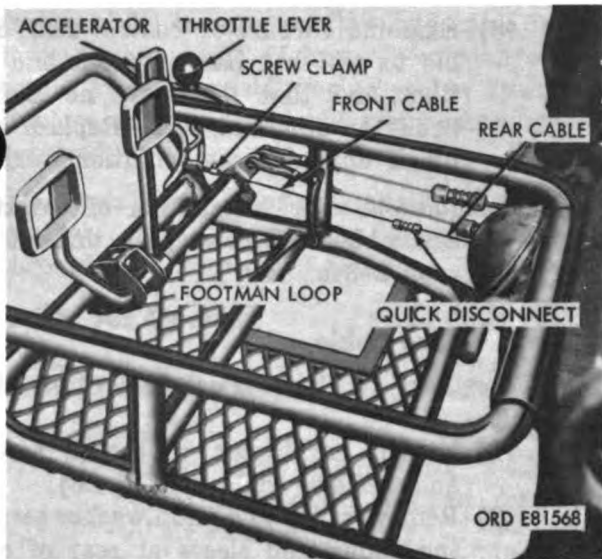
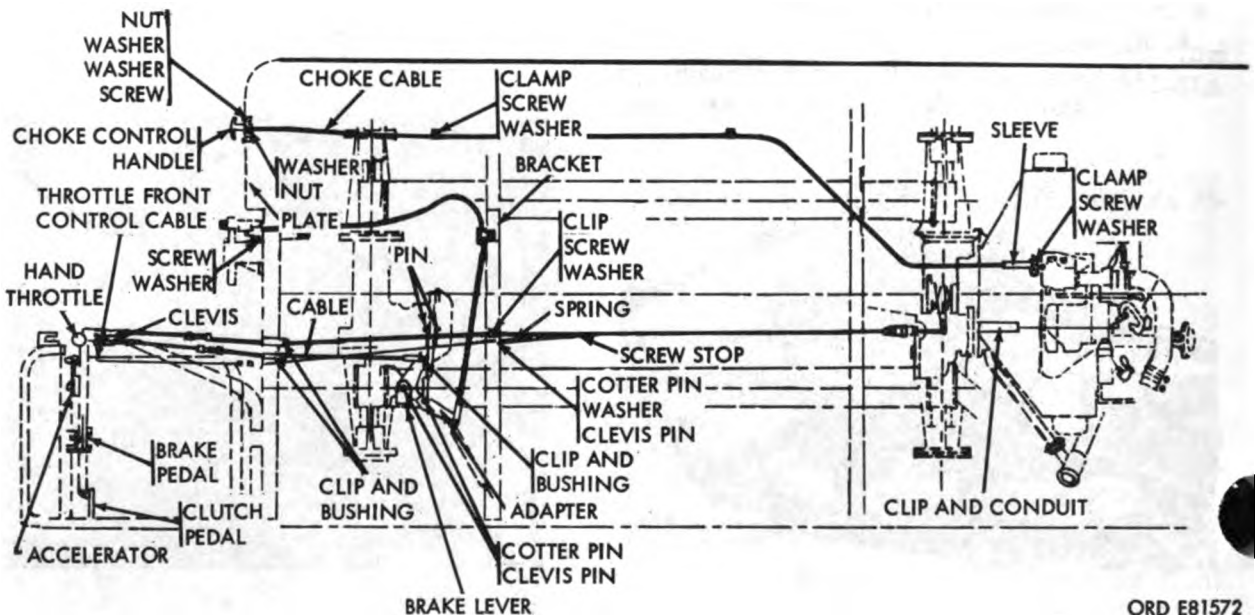

Figure 2-24. Location of front and rear throttle control cables.
Figure 2-28. Control cable routings.
- (1) Disconnect quick-disconnect coupling between front and rear throttle control cables at forward end of coupling (fig. 2-24).
- (2) Loosen screw clamp securing front end of throttle control wire to accelerator pedal and remove front control cable (fig. 2-24).
- (3) Loosen screw in stop under platform just rearward of second crossmember support (fig. 2-28). Disconnect quick-disconnect at front of vehicle between front and rear throttle control cables at rear of quick-disconnect (fig. 2-24).
- (4) Pull rear throttle cable from rear of vehicle through front crossmember bushing and clip, second crossmember bushing and clip, spring, stop, third crossmember bushing and clip, and conduits and clip on shroud. Refer to figure 2-28.
- (2) Remove screw and plain washer securing clamp and sleeve at rear of engine (fig. 2-28).
- (3) Remove two clamps, screws, and plain washers securing cable to underside of platform (fig. 2-28).
- (4) Remove with suitable tools two machine screws, flat washers, lockwashers, and nuts from front platform (figs. 2-28 and 2-18).
*a. Removal.* Loosen clamp connecting engine exhaust manifold-to-muffler (fig. 2-28). Unscrew four cross-recess screws securing muffler to underside of platform (fig. 2-31) and remove muffler and two insulators.